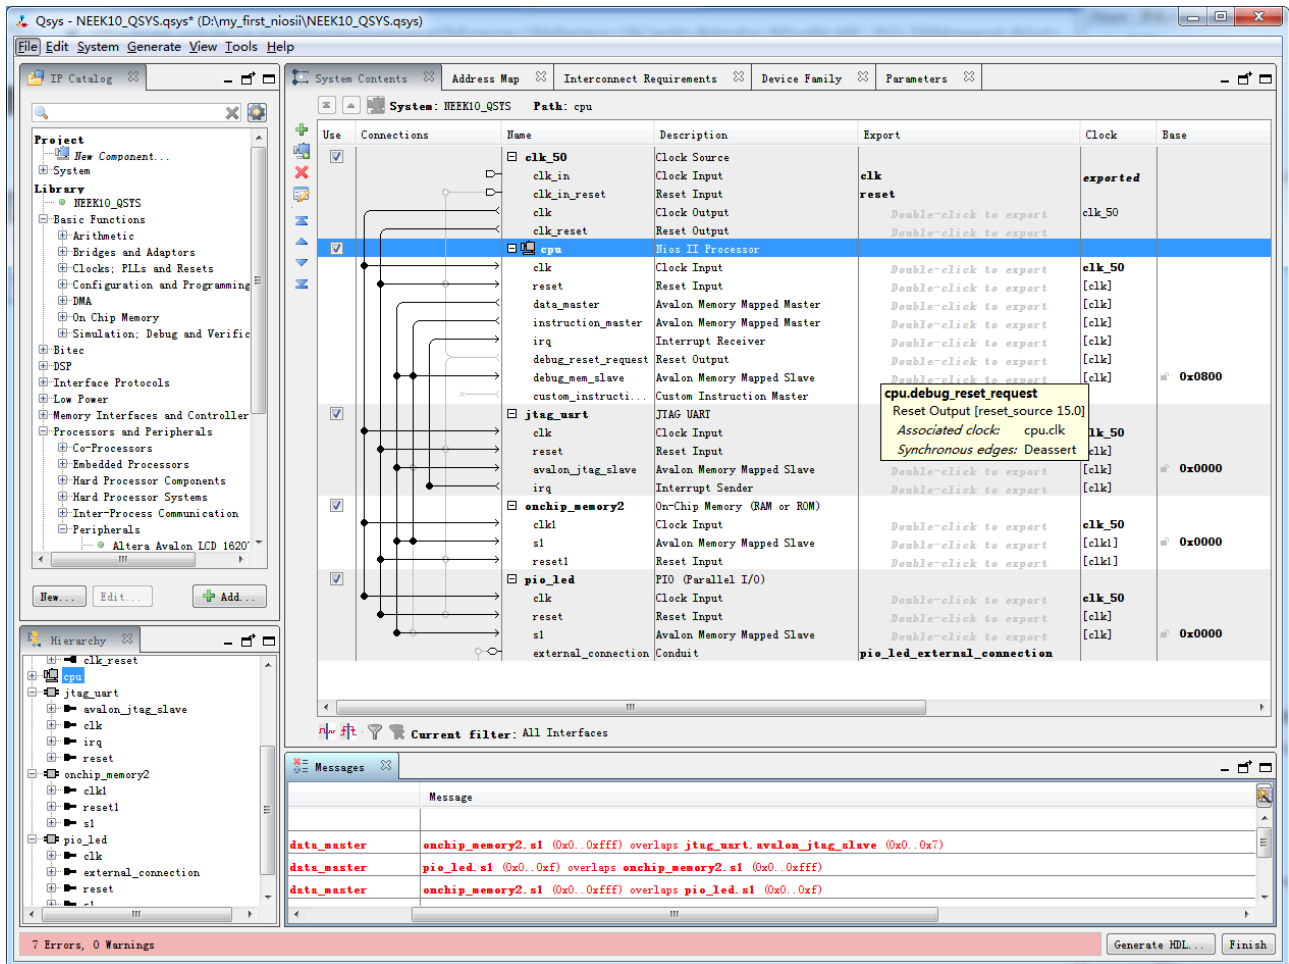
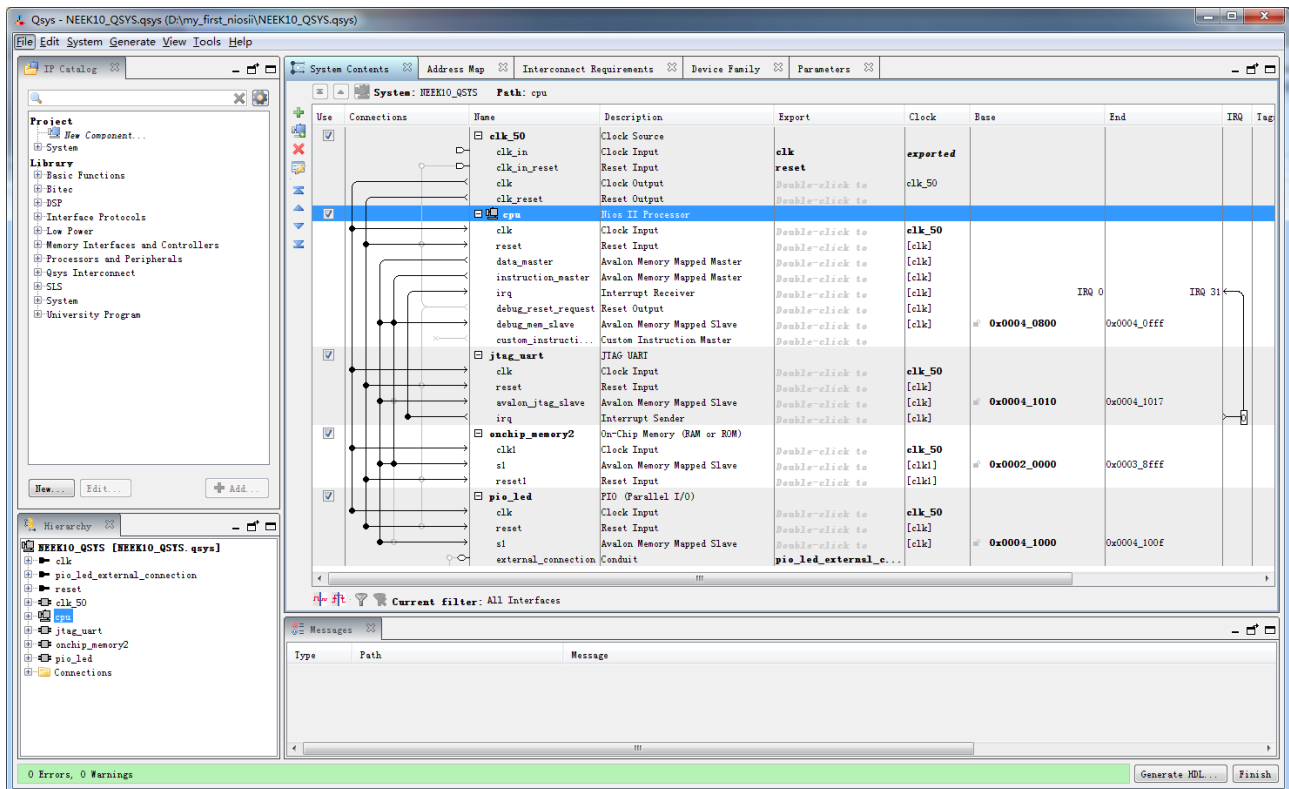

Figure 1-30 Assign base addresses automatically
Figure 1-31 No more errors or warnings
22. Choose **System -> Assign Base Addresses**, as shown in **Figure 1-30**. The base addresses will be assigned automatically and there should be no more error or warning message, as shown in **Figure 1-31**.